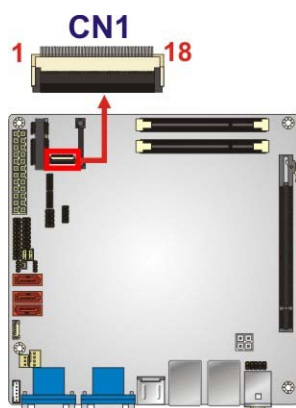

Figure 3-8: Debug Port Connector Location
- CN Location:** See **Figure 3-8**